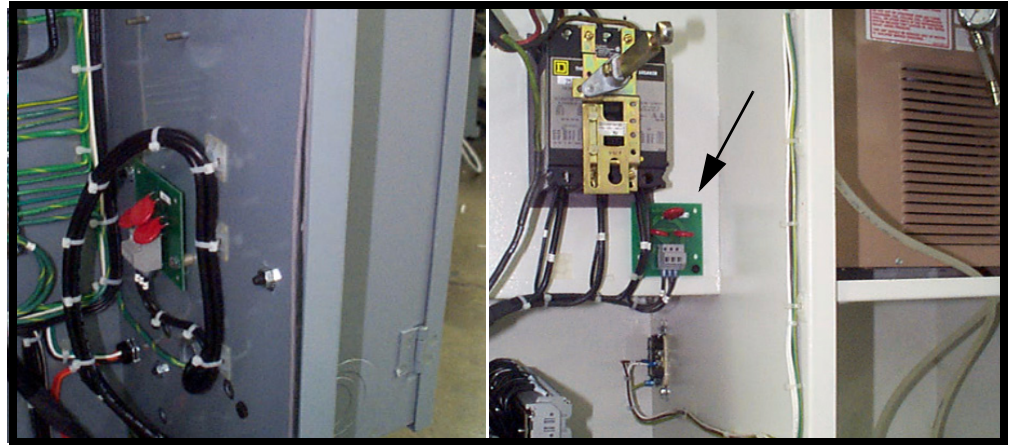

Figure 3-4 MOV Surge Suppressor Board
1) Locate the MOV Surge Suppressor Board (see figure 3-4).